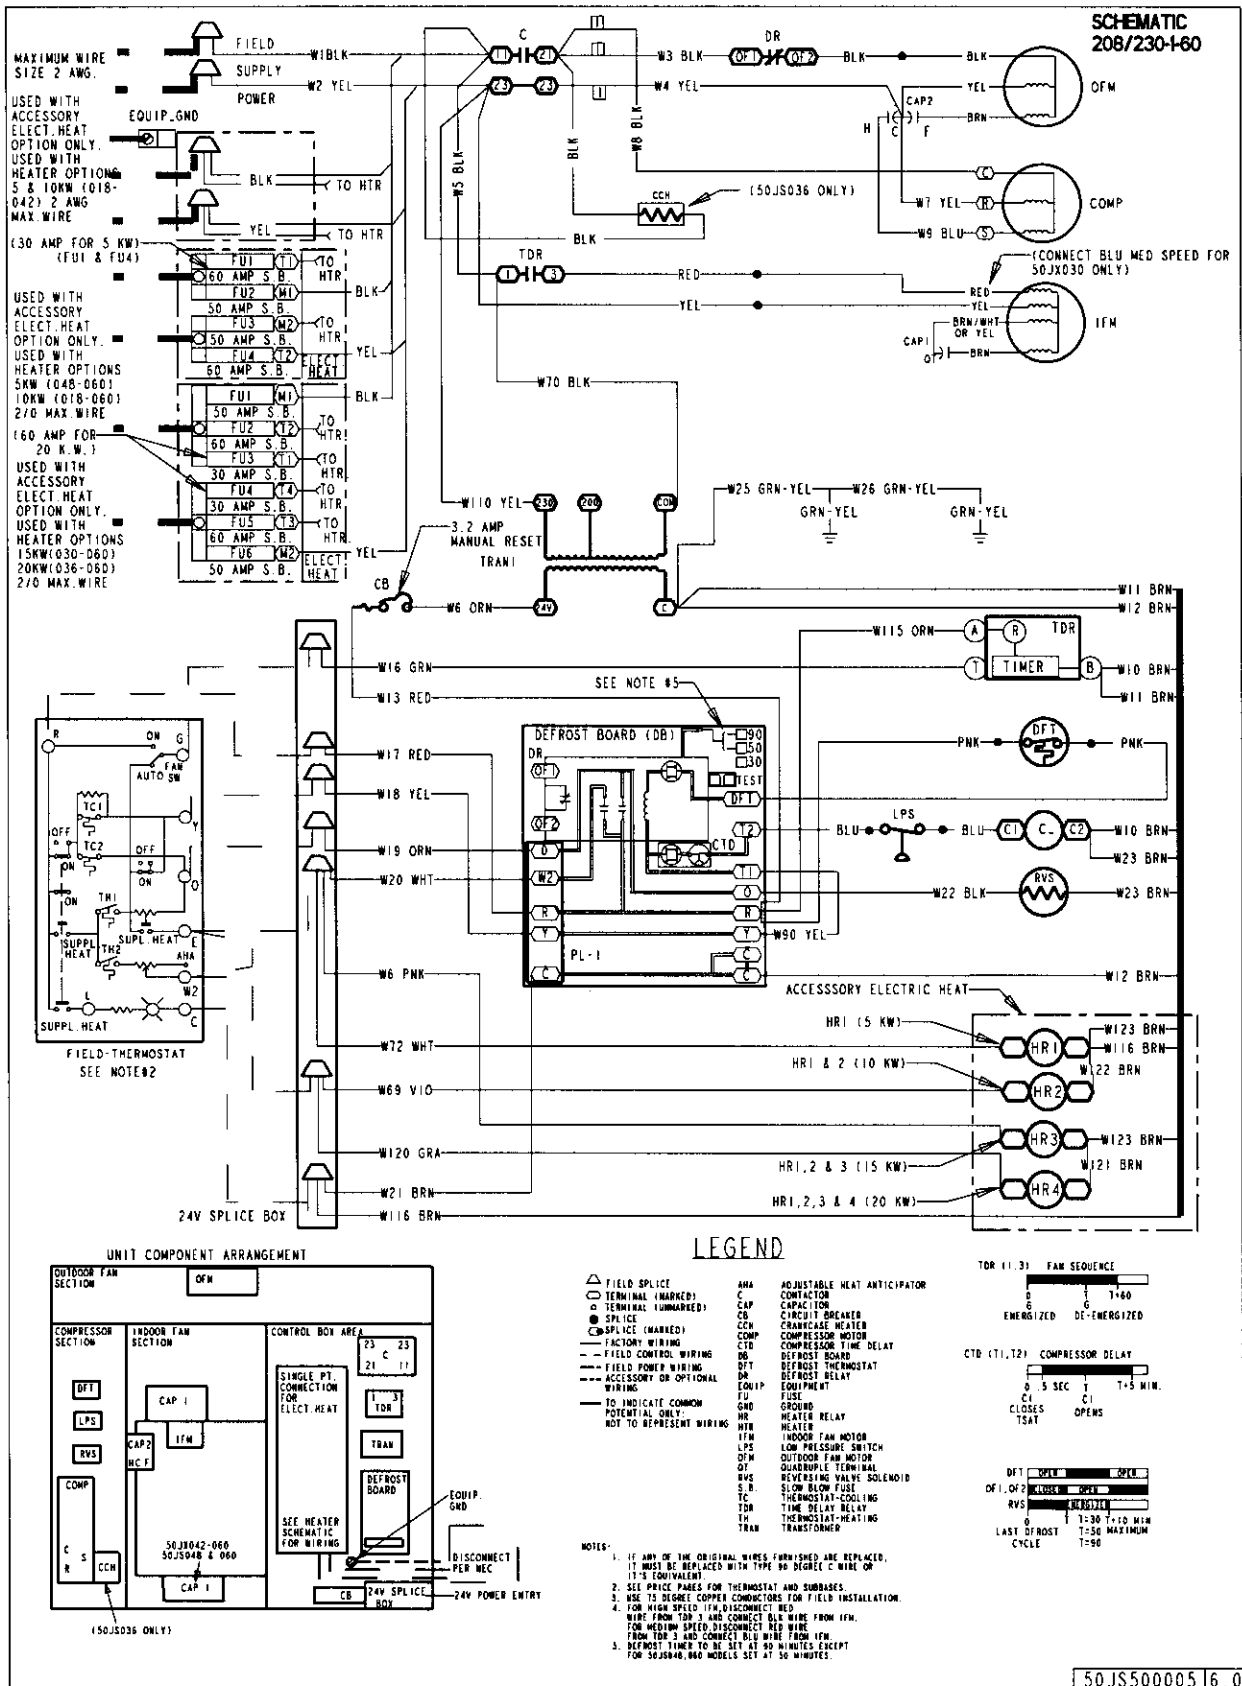

Fig. 13—Wiring Schematics (208/230-1-60)
1. Disconnect the yellow primary lead from the transformer. See unit wiring label (See Fig. 13 and 14).